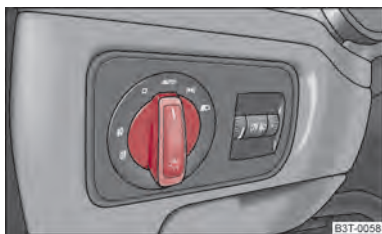

Fig. 35 Dash panel: Light switch
- Turn the light switch ⇒ fig. 35 into position **AUTO**.
- Turn the light switch  $\Rightarrow$  fig. 35 into position **AUTO**.